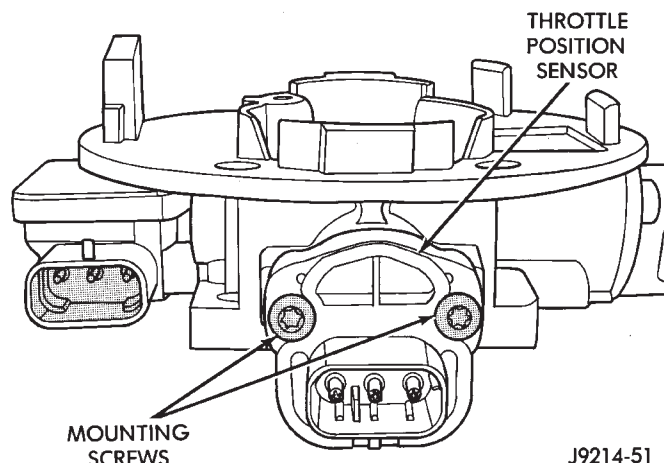

Fig. 65 TPS Mounting Bolts—5.2L Engine
- (1) Remove air duct at throttle body.
- (2) Disconnect TPS electrical connector.
- (3) Remove two TPS mounting bolts (Fig. 65).
- (4) Remove TPS from throttle body.